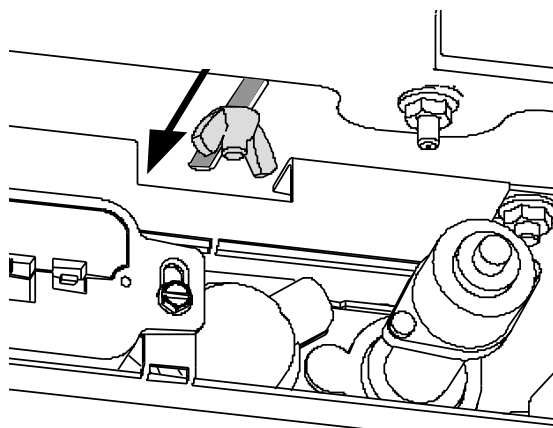

Figure 7.1.
3. Open the Controls compartment under the firebox. **Loosen the Air Shutter wing nut** located below the firebox floor and push the stem back far as it will travel. See fig. 7.1.